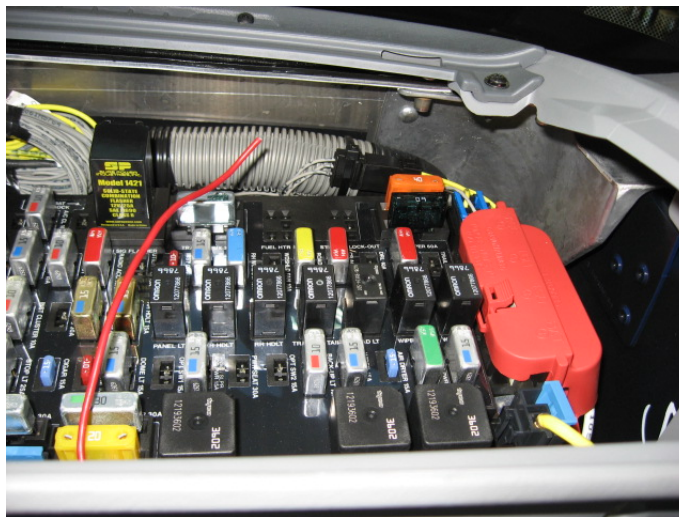

Figure 12– Electrical Connections
2. Connect the power lead to a 15 amp keyed accessory circuit in the fuse box. See Figure 12.
3. Under the red cover, the second terminal from the front is a keyed power source. Connect the fuse link to this terminal and the wire from the evaporator to fuse link. See Figure 12.